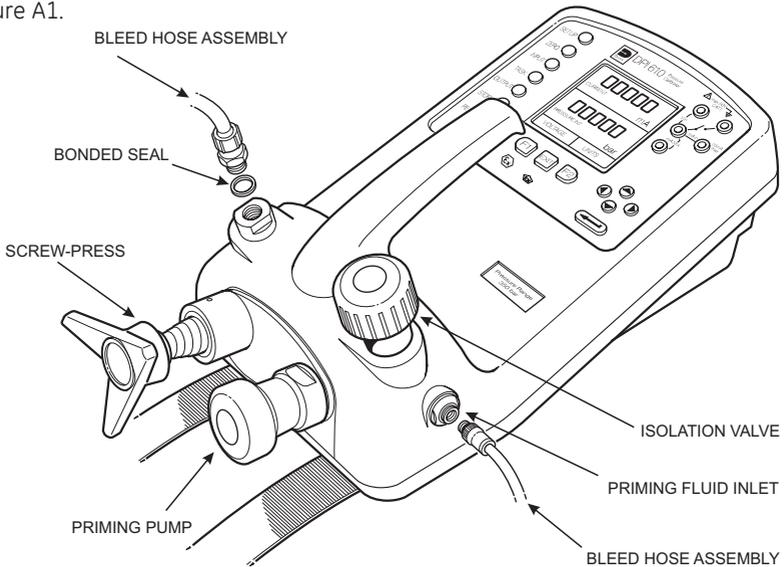

Figure A1 - DPI 610/615 HC Connections
These versions of the DPI 610 IS and DPI 615 IS provide manual generation of hydraulic pressure and consist of a screw-press with a priming pump and priming isolation valve as shown below. The bleed pipe connections are also shown in Figure A1.
- Fit the bleed pipe connection to the priming port using the bonded seal as shown in Figure A1.